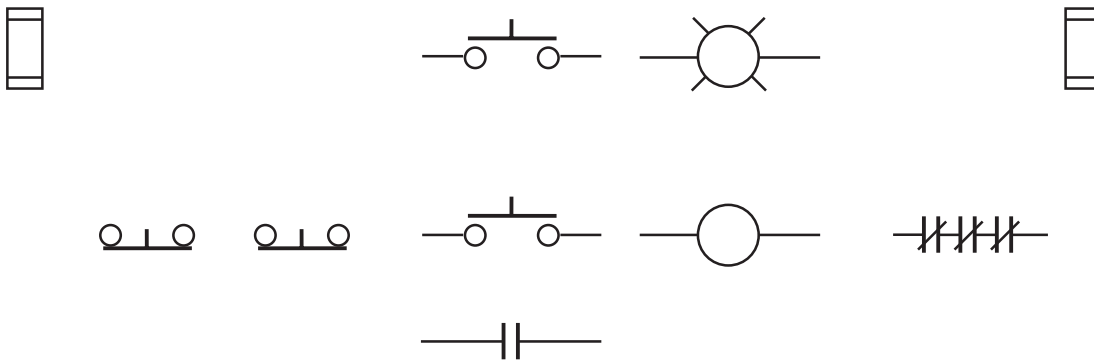

Figure 9—Placement of control components
2. Organize these pilot devices into appropriate positions, as shown in Figure 9.